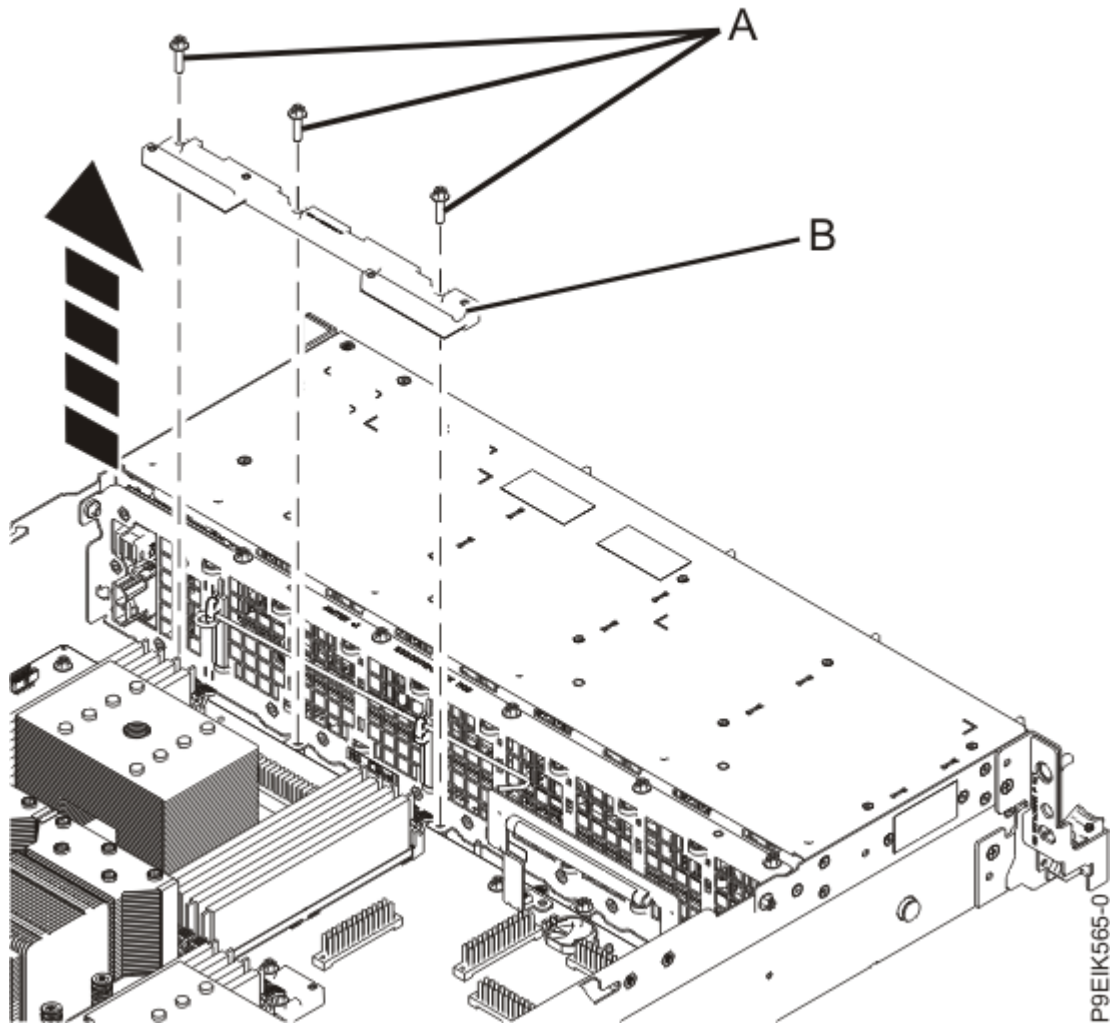

Figure 8. Removing the front holder
7. Remove the three screws **(A)** that secure the holder **(B)** to the system as shown in Figure 8 on page 14. Then, remove the holder from the system.